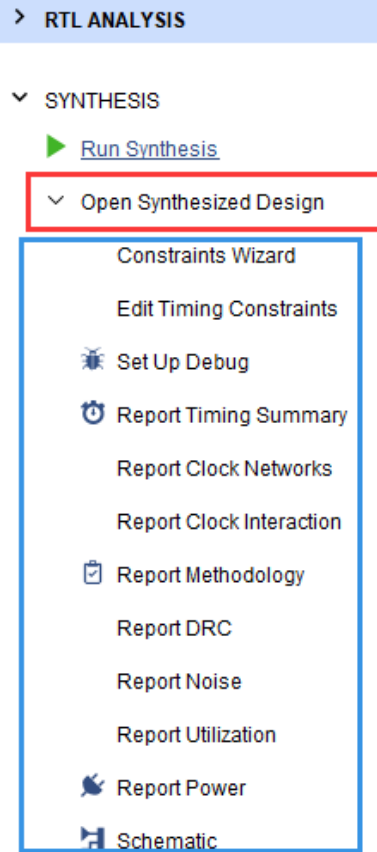

Figure 16.
1. Click **Open Synthesized Design** for further design and analysis. You can see **Report Timing Summary**, **Report Utilization** and others, as shown in figure 16.